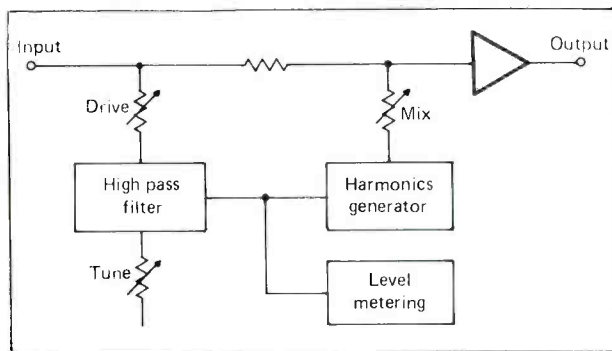

Fig. 1. Block diagram of one channel of Aphex B Aural Exciter.
The operating principle of the Aphex Aural Exciter is really quite simple (despite the fact that its inventor claims to have worked for a couple of decades before perfecting the idea). As illustrated in the block diagram of *Figure 1*, the main signal is fed from input to output and undergoes no change whatsoever. All signal processing is done via a secondary outside loop and the resulting processed signal is added to the main signal in small, but user-variable amounts. The signal processing that occurs in this side chain consists essentially of two steps. First, the signal is passed through a tunable high-pass filter, whose cutoff frequency can be set from around 1 kHz to 5 kHz. Such a filter also introduces a phase shift which increases with decreasing frequencies, reaching its maximum shift below the filter cut-off frequency. Following this filtering, the side-chain signal is metered for correct input level to the next stage. That stage is a harmonics generator which creates low-order harmonics of the incoming signal. The resulting signal then goes to a mixing control where it is added at low level (typically 20 dB below the main signal) to the main signal. Perceptive readers will realize at once that another way of describing this signal is to say that the Aphex Aural Exciter adds harmonic distortion to predeter-
Fig. 1. Frequency response at 0 dB record level, Sony PCM-F1, 14-bit mode, with cursor set to show maximum deviation from FLAT RESPONSE at treble end (A) and bass end (B) of spectrum.